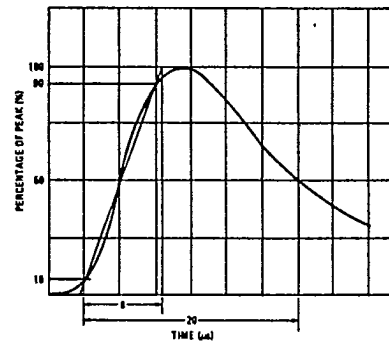

Fig. 2 - Test Current Waveform
1. I peak Maximum allowable current	V 1 is measured, the rated current value with the waveform of Figure 2 is applied twice in the same direction at a 2 min. interval. V 1 is measured 30 min. later.
2. Surge life expectancy	V 1 is measured, the tabulated current with the waveform of Figure 2 is applied 10,000 times in the same direction. V 1 is measured 30 min. later.